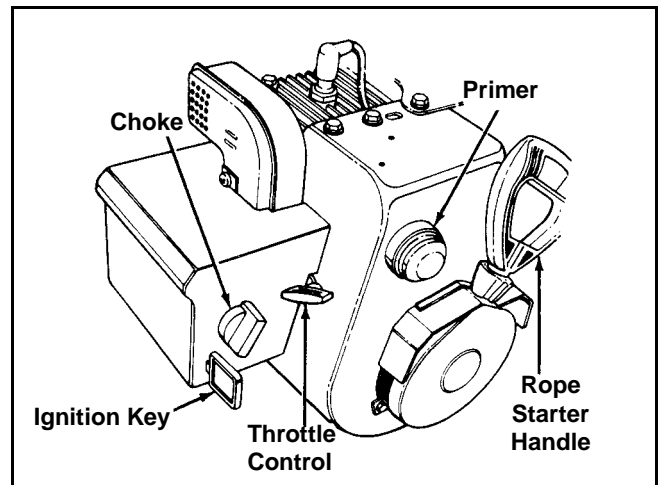

Figure 8
- Move throttle control up to FAST position. Insert ignition key into slot. See Figure 8. Be certain it snaps into place. **Do not** turn the key.
- **Recoil Start Only:** Push primer button two or three times when using recoil starter. If engine is warm, push primer button once only. See Figure 8.
- **Recoil Start:** Grasp starter handle (see Figure 8) and pull rope out slowly, until it pulls slightly harder. Let rope rewind slowly. Pull starter handle rapidly. Do not allow handle to snap back. Allow it to rewind slowly while keeping a firm hold on the starter handle.